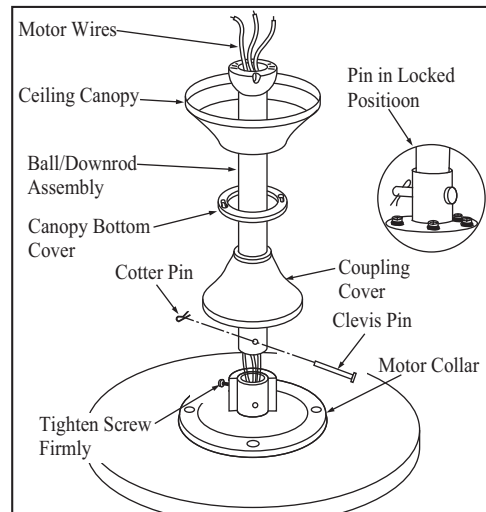

Figure 6
3. Remove the clevis pin, cotter pin and set screws from the top of the motor assembly. (Figure 6)
4. Route wires exiting from the top of the fan motor through the coupling cover, canopy cover, canopy and then through the ball/downrod. (Figure 6)
5. Align the holes at the bottom of the downrod with the holes in the coupling on top of the motor housing. (Figure 6) Carefully insert the clevis pin through the holes in the collar and downrod. Be careful not to jam the clevis pin against the wiring inside the downrod. Insert the cotter pin through the hole near the end of
the clevis pin until it snaps into its locked position, as noted in the circle inset of Fig. 6.
6. Tighten two set screws at top of the fan motor collar firmly and evenly. (Fig. 6)